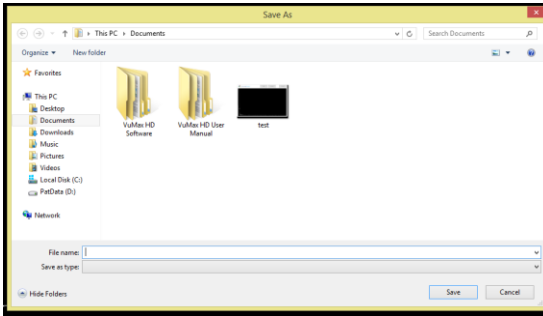

Fig. 11 'Save As' Window
⑦ **Save As:** Upon selecting the ‘Save Screenshot’ button, a Windows ‘Save As’ screen (Fig. 11) will be displayed. Navigate through the folders to select a destination folder for saving the patient’s saved A-Scan. Note that a ‘File Name’ is required for saving the document.